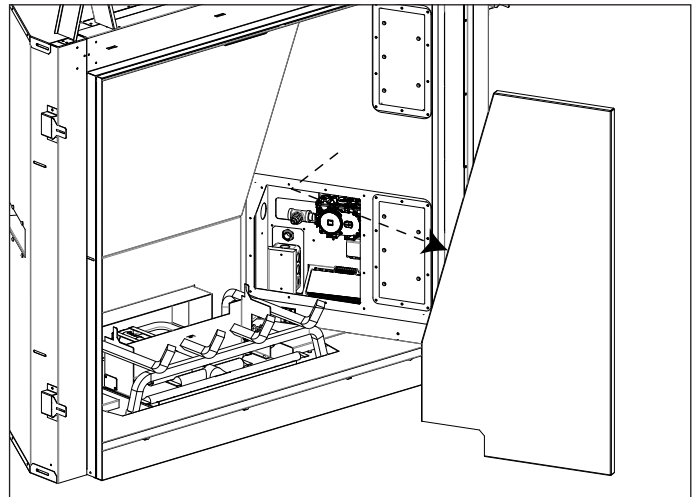

Figure 23: Right Liner Removal
7. Remove the right liner from the firebox. See Figure 23.